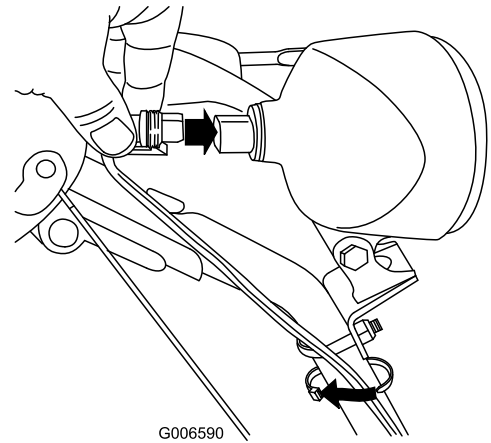

Figure 50
6. Insert the wire connector straight into the back of the headlight until it is securely in place (Figure 50).